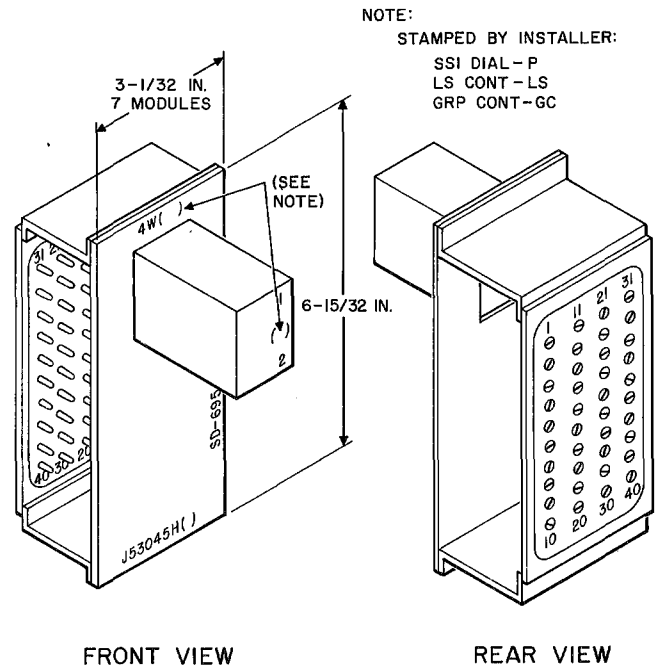

Fig. 8—SS1 Dialing, Group Code, or Loudspeaker Control Unit
2.11 This unit can be used to accomplish any one of three functions. An AK relay is used in each unit (Fig. 8) which is arranged for two circuits.